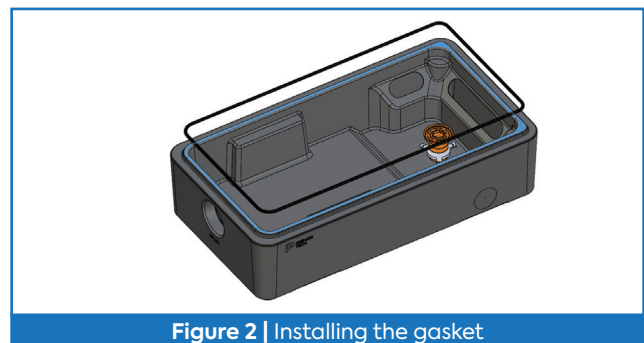

Figure 2 | Installing the gasket
**WARNING** – The provided gasket must be placed around the upper part of the chamber (fig. 2).